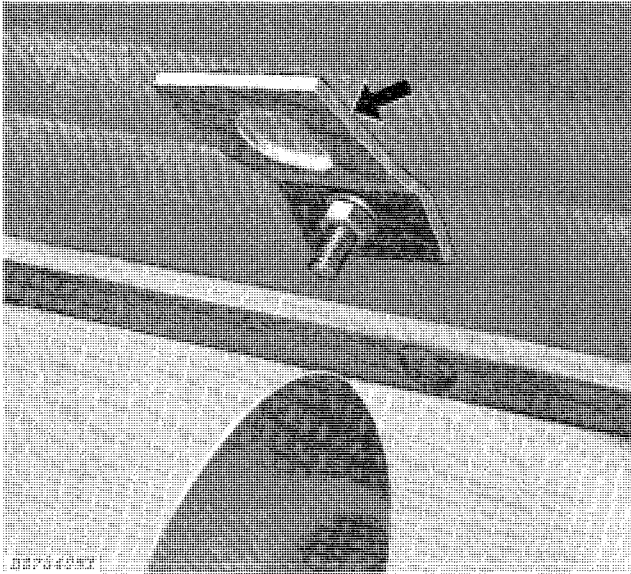
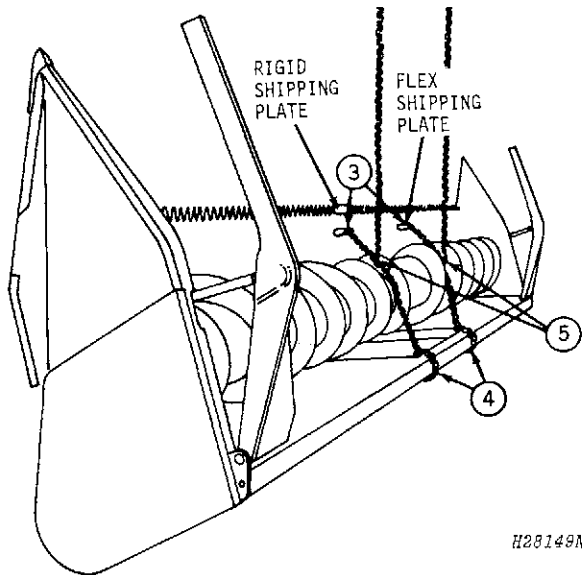

Fig. 47-Flex Platform Shipping Plate
Fig. 50-Rolling Over Platform to Operating Position
Shipping plates are attached to the flex platform floor in front of the auger (Fig. 47).
3. Hook a suitable chain to each shipping plate (Fig. 50). Refer to Figs. 47 and 48 for location of the shipping plates.
4. Route chains over auger and secure each chain to platform top beam (Fig. 50).
5. Lay two 2 x 4's on the ground in front of the platform. Attach lift hooks to the chains, attached in Steps 3 and 4 (Fig. 50), and lower platform down on the 2 x 4's into the operating position.